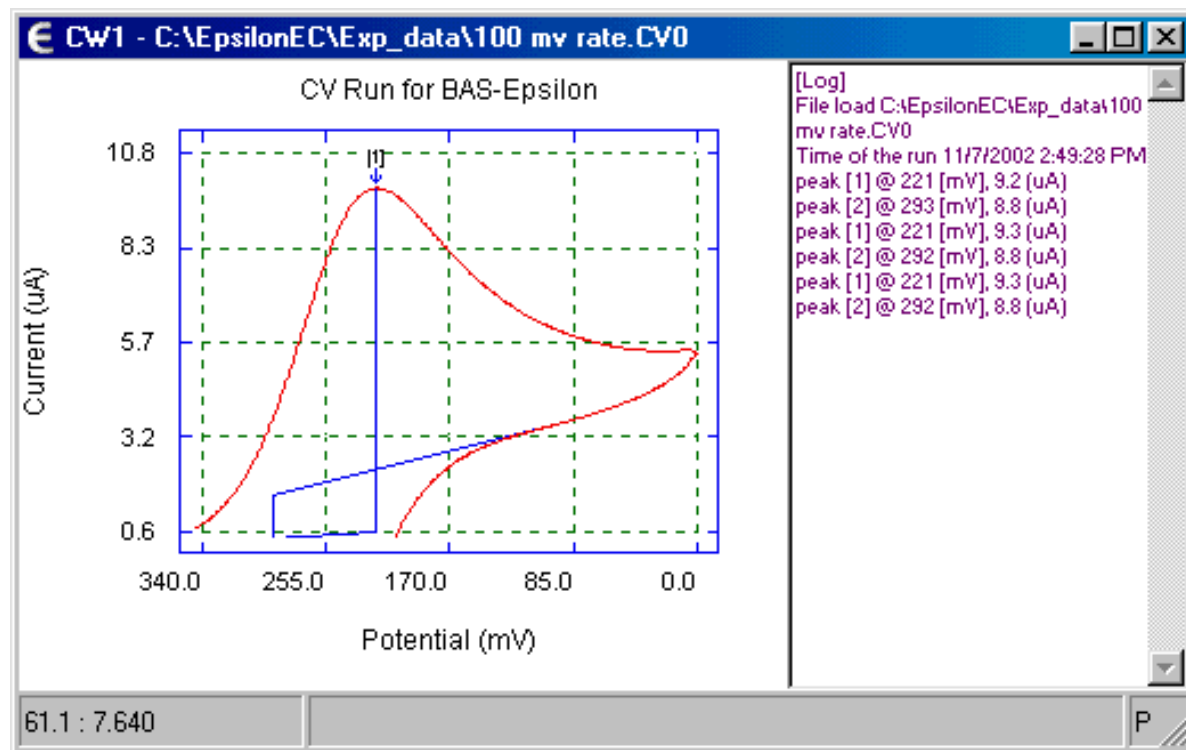
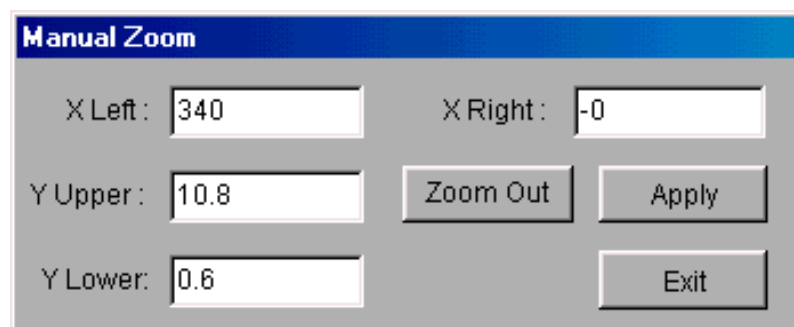

Figure 5.
Figure 6. Manual Zoom dialog box.
6. A specific area of the graphic can be enlarged by either using the mouse cursor (and the left mouse button) to define the area (**Figure 5**) or entering the x and y values in the **Manual Zoom** dialog box (**Figure 6**). The original graph can be restored using **Auto Zoom** in the **Graph-Display** menu.